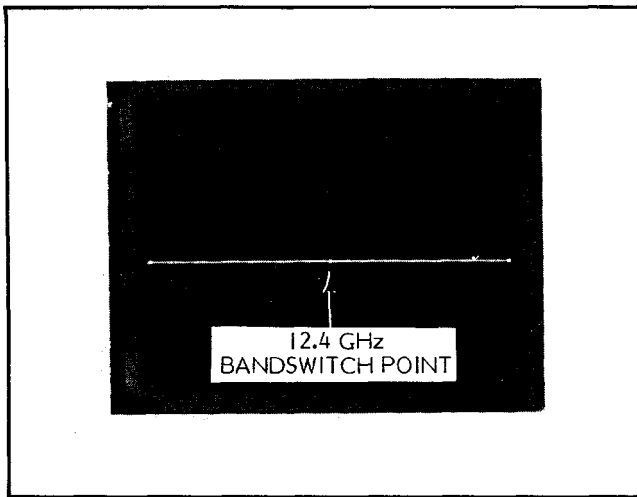

Figure 5-21. Bandswitch Dwell Signal
3. Adjust the oscilloscope vertical controls to obtain a horizontal trace, as shown in Figure 5-21.
4. Adjust A5R13 on the Frequency Instruction PCB to center the band-switch intensity-dot on the oscilloscope display (Figure 5-21).